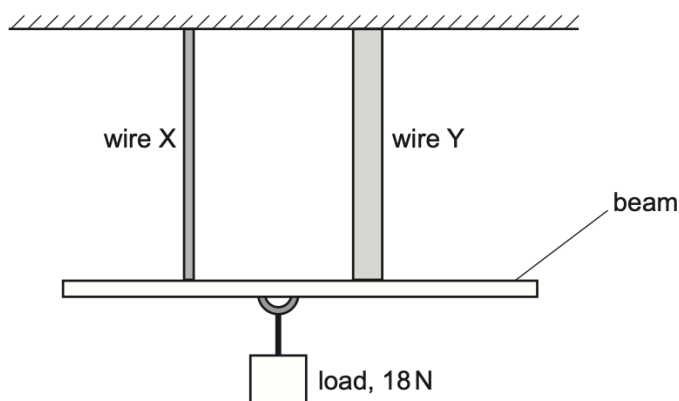

Fig. 4.1
- (b) Two wires X and Y, with equal unstretched lengths of 0.84 m, are suspended from fixed points that are at the same horizontal level. The lower ends of the wires are attached to a beam of negligible mass. The beam is horizontal and in equilibrium, as shown in Fig. 4.1.